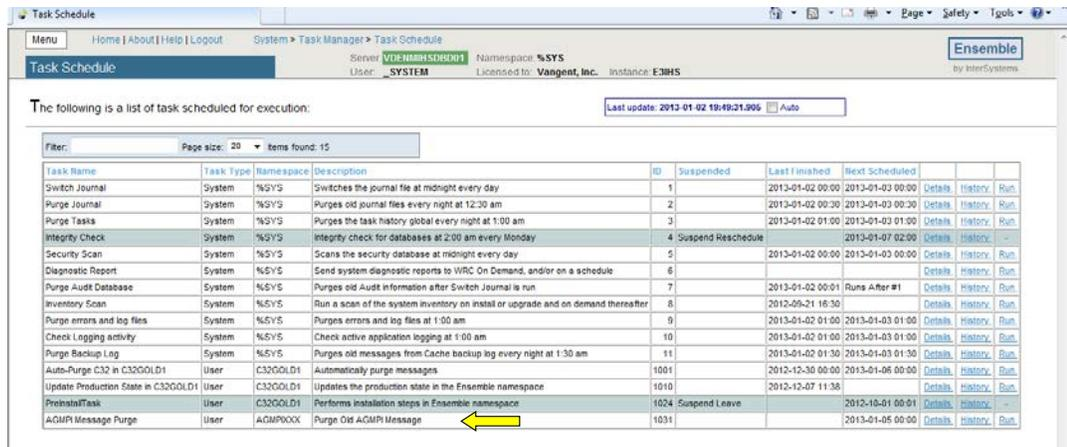

Figure 6-5: **View Task Schedule** page with **AGMPI Message Purge** displayed
14. Click **Finish** to display the **View Task Schedule** page with the new task at the bottom of the page, as shown in Figure 6-5.